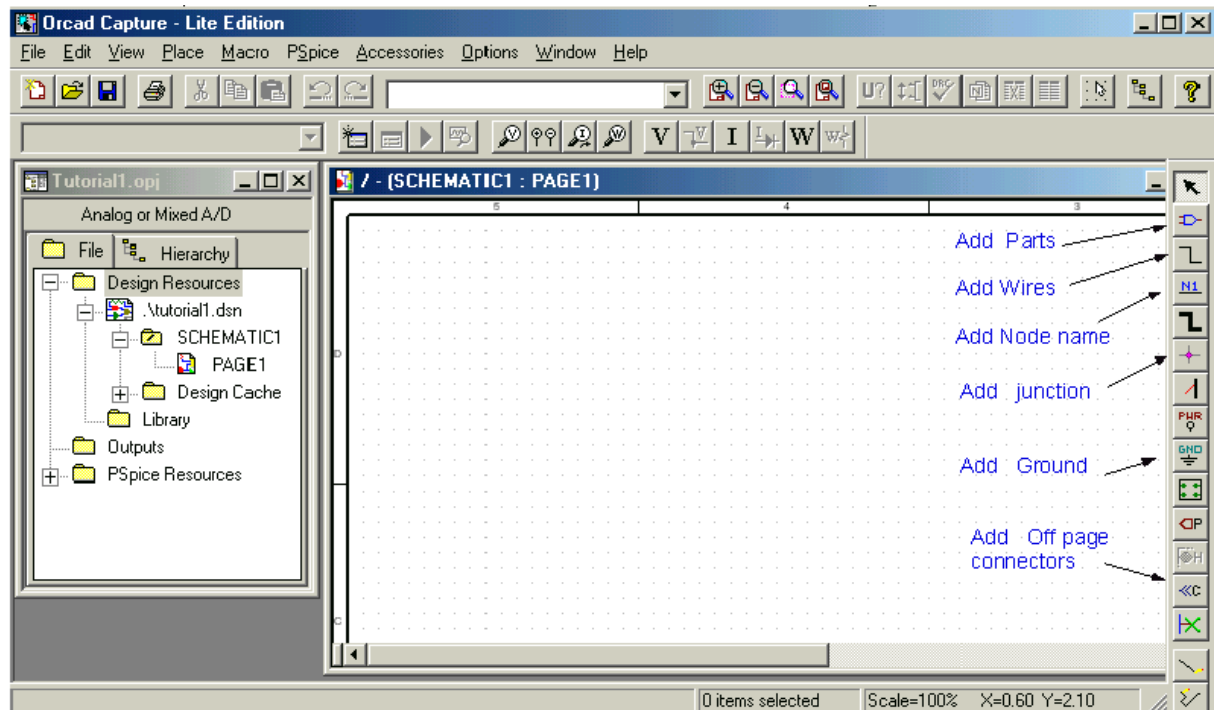

Figure 3. Design manager with schematic window and toolbars (OrCAD screen capture)
5. After placing all part, you need to place the Ground terminal by clicking on the GND icon (on the right side toolbar – see Fig. 3). When the Place Ground window opens, select GND/CAPSYM and **give it the name 0 (i.e. zero)**. Do not forget to change the name to 0, otherwise PSpice will give an error or "Floating Node". The reason is that SPICE needs a ground terminal as the reference node that has the node number or name 0 (zero).